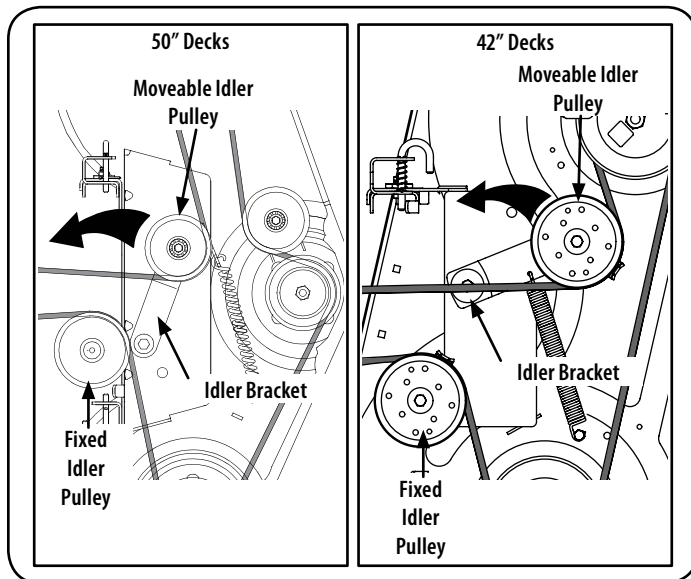

Figure 25
2. Working from the middle of the riding mower, pivot the idler bracket and movable idler pulley rearward away from the backside of the 'V' belt just far enough to lift the belt up and over the idler pulley. See Figure 25.